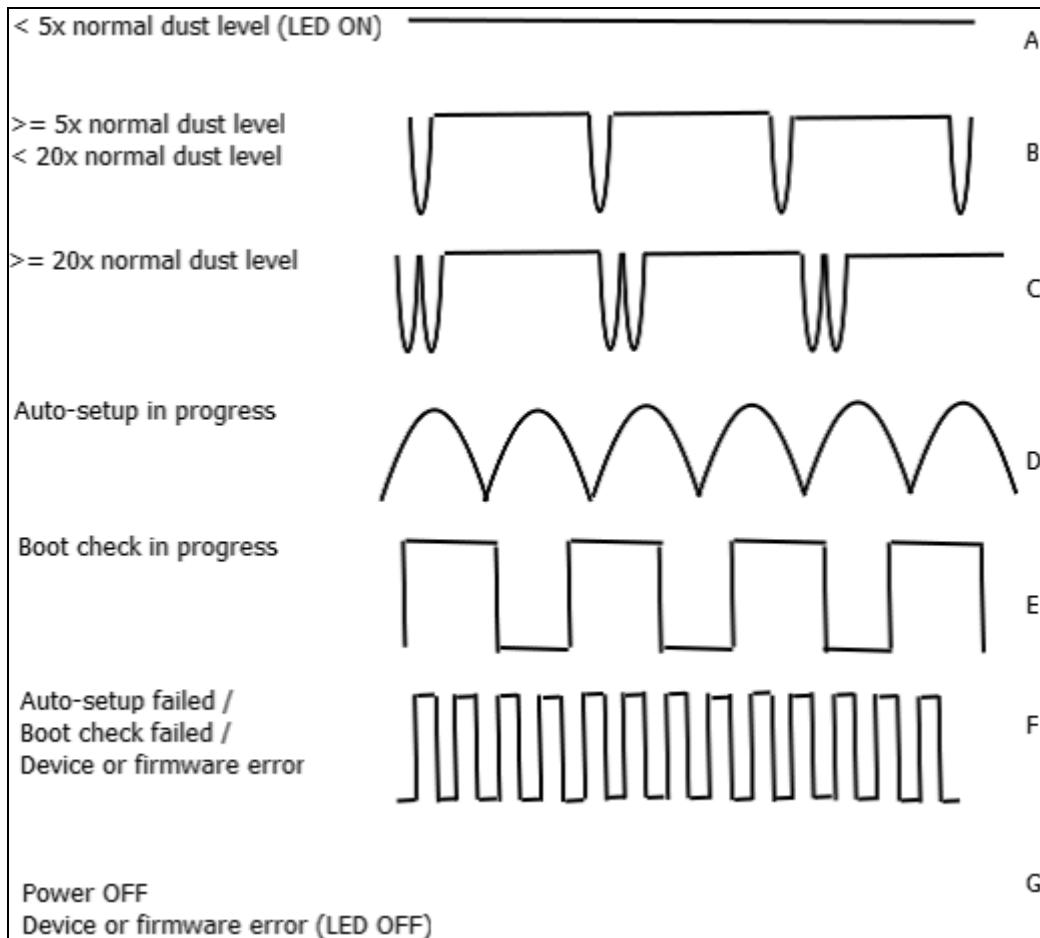

Figure 10 Description of Snifter mA+ EX RF cover illumination sequences.
- 1.1 by connecting the automatic setup signal (green wire) to the V+ signal (wire) for a period of 1 second. The automatic setup will initiate and the front panel light will start to blink slowly (sequence D in Figure 10 Description of Snifter mA+ EX RF cover illumination sequences.).